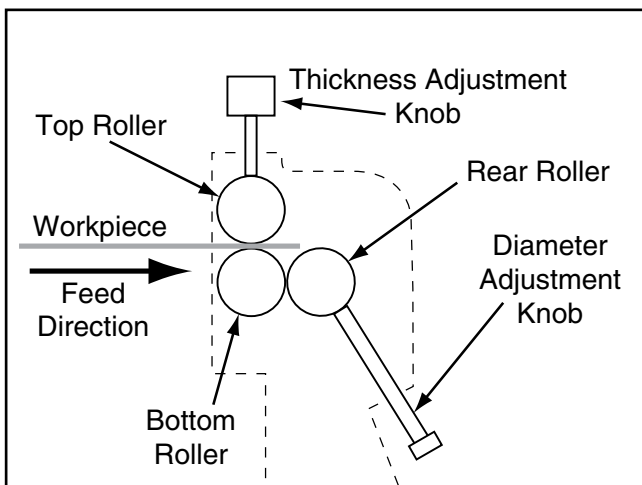

Figure 20. Rear roller lowered so it is even with bottom roller.
1. Use diameter adjustment knobs to lower rear roller even with bottom roller (see **Figure 20**). Rotate thickness adjustment knobs counter-clockwise until top roller is raised enough to insert workpiece.